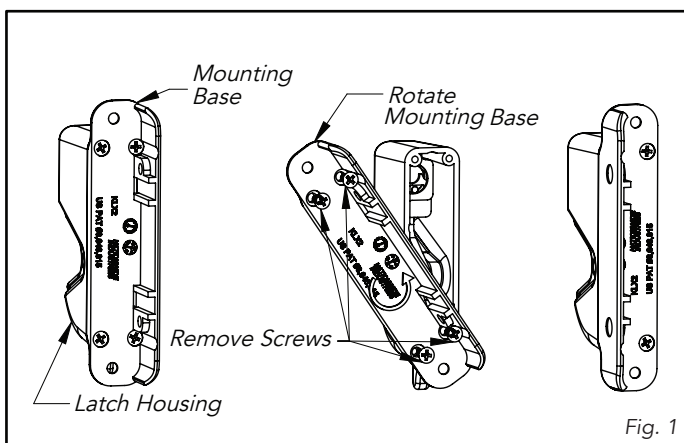

Fig. 1
1. The KLX2-P1 is designed to fit both right-hand and left-hand applications. To conform to your application the latch and button assembly may need to be reversed. To reverse the latch assembly, remove the four screws holding the mounting base, then carefully lift and rotate the mounting base 180° and fasten with the four screws (Fig. 1).